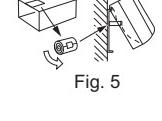

Fig. 5
- Insert the drain hose into wall hole sleeve (C), and hook the upper part of indoor unit on installation plate (1). Then, move the indoor unit completely to the left in order to make placing the piping in the back space of the unit easier.
- Cut out a piece of cardboard from the shipping box, roll it up, hook it onto the back rib, and use it as a spacer to lift the indoor unit. (Fig. 5)